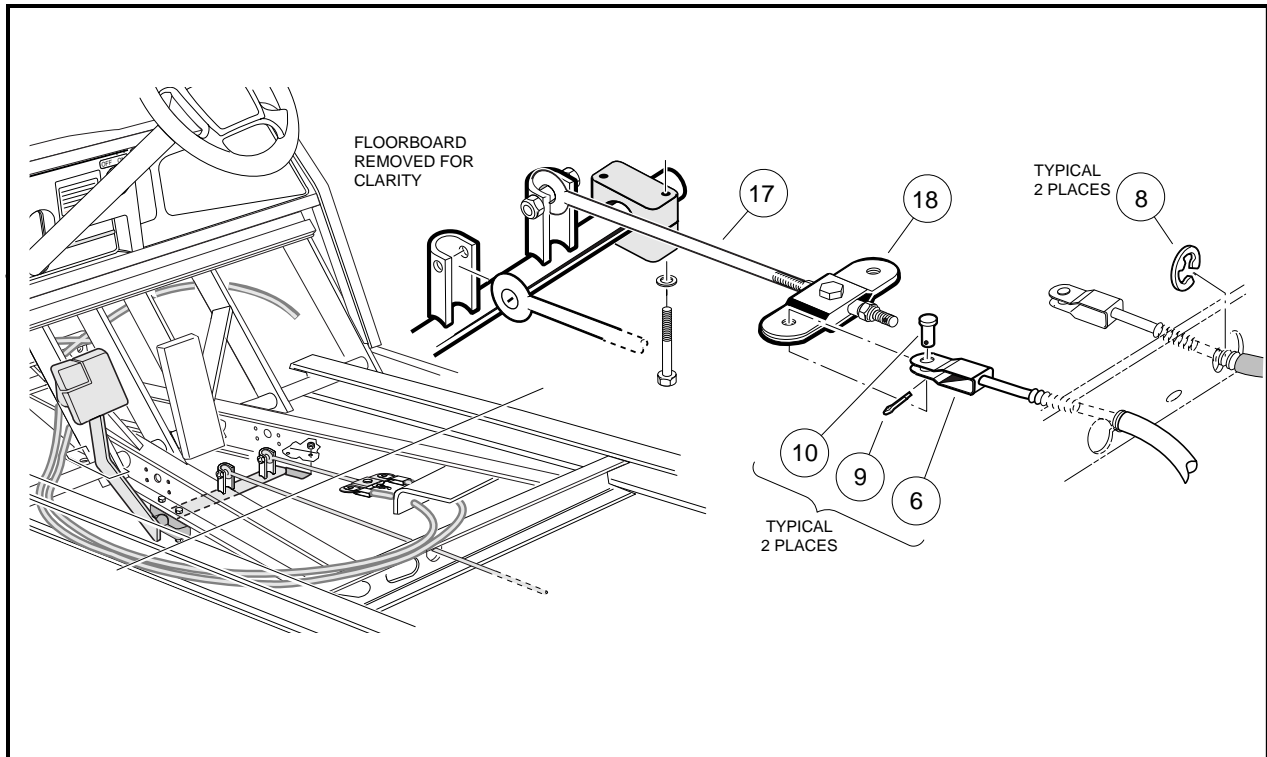

Figure 6-31 Brake Equalizer
3. Remove cotter pin (9), clevis pin (10), and E-clip (8) from brake cable at equalizer (18) (**Figure 6-31, Page 6-19**).
1. Place brake cable through frame mounting hole behind equalizer and install E-clip (8) on cable housing (**Figure 6-31, Page 6-19**).
2. Place brake cable clevis (6) on equalizer (18) and install the clevis pin (10) and new cotter pin (9) (**Figure 6-31, Page 6-19**).